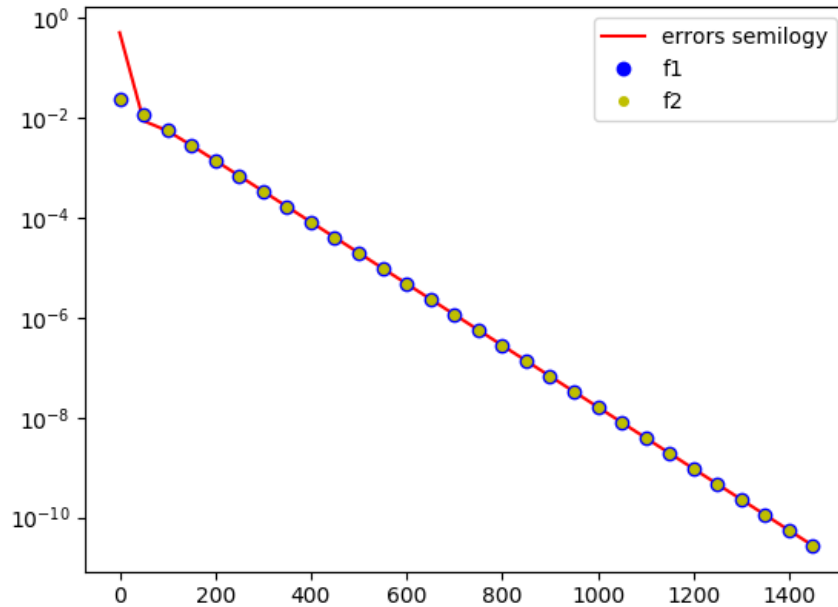
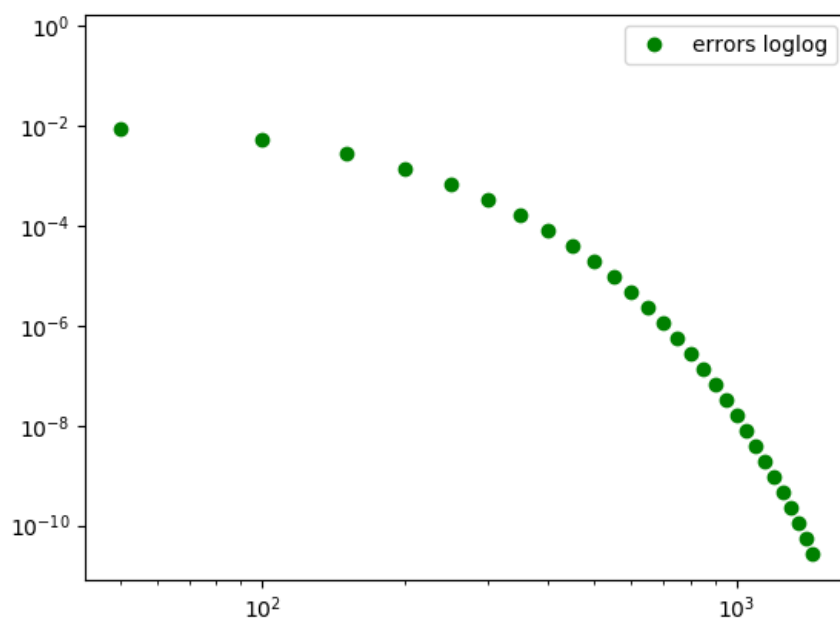

Figure 1: Errors, bestfit1, 2- semilog
Figure 2: Errors - loglog
We plot the semilog plot and the loglog plot of the errors using every 50th data point. We see that the semilog plot is linear(Figure.1) and the loglog(Figure.2) plot gives a reasonably straight line upto about 500 iterations, but beyond that, we get into the exponential regime. So we assume the error varies as exponential and find the best fit for it (1) using all the data and (2) using data after the 500th iteration. And we then plot this bestfit 1 and 2 along with the error in the Figure.1.